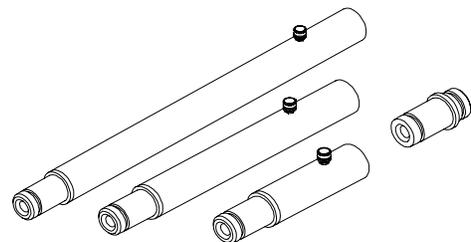

Figure 1-20. Strut Extensions
f. **Strut Extensions**. When combined with base plates and/or end plates, strut extensions are designed to function independently as rigid support devices. They also can be integrated with either lockstroke or acme thread struts to add length. Struts are not designed to accept more than two extensions with a total combined length of 36" (91.4 cm). Refer to table 1-1 and figure 1-20.